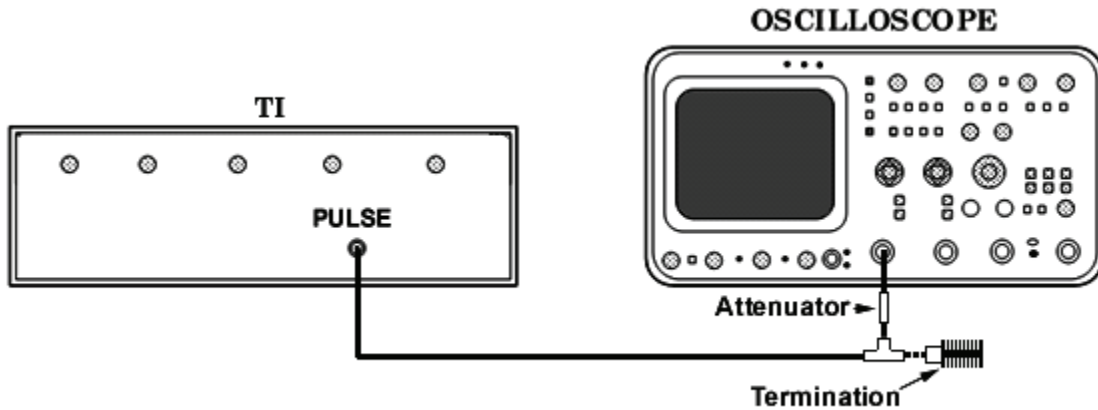

Figure 1. Amplitude - equipment setup.
(1) Connect equipment as shown in figure 1.